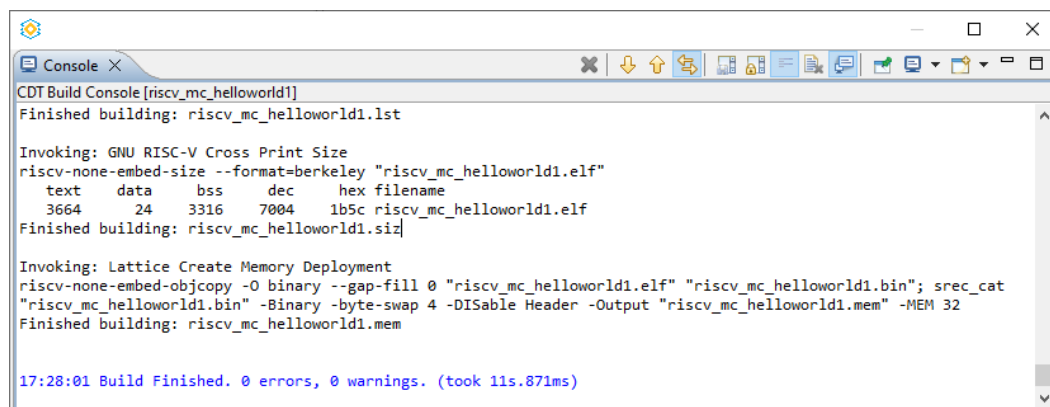

Figure 6.12. Build Result of HelloWorld C Project
5. Check the build result from the **Console** view (Figure 6.12).